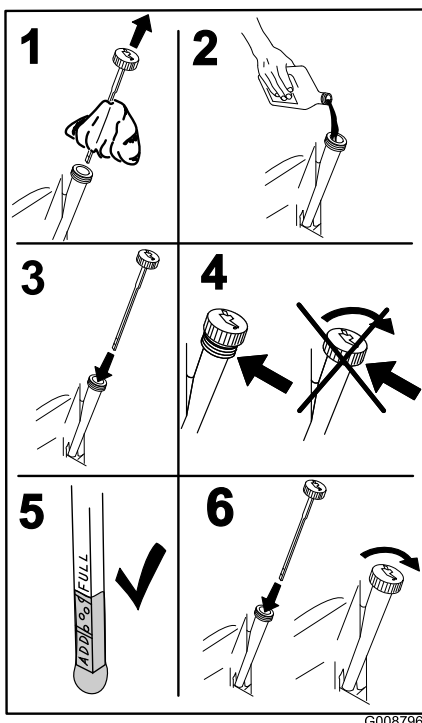

Figure 39
- Slowly pour approximately 80% of the specified oil into the filler tube and slowly add the additional oil to bring it to the **Full** mark (Figure 39).